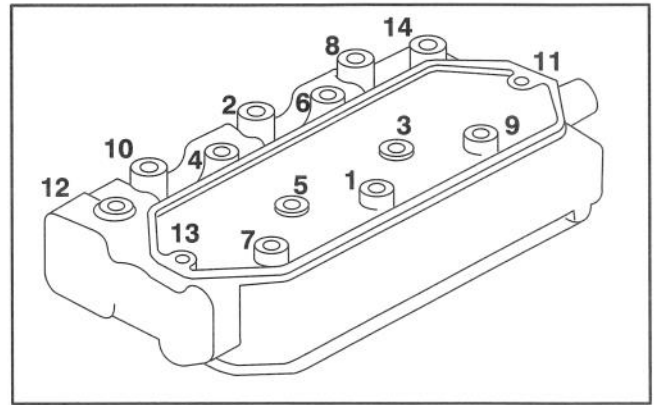

Figure 38
2. Using sequence in figure 38, torque head bolts to 25 ft.-lb.